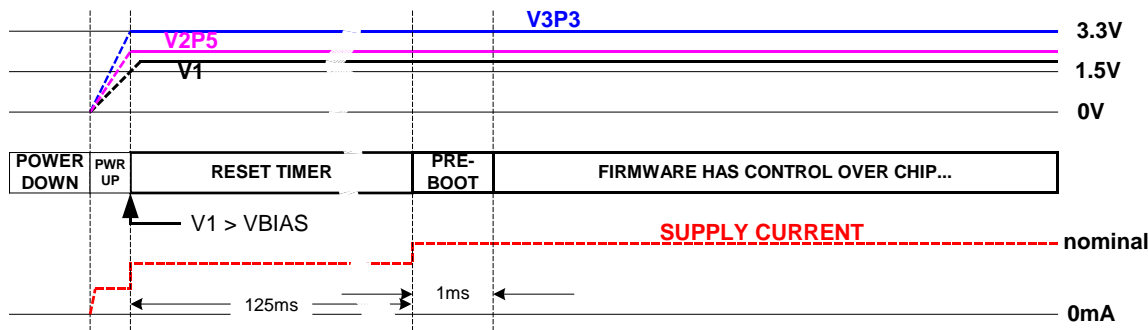

Figure 20: Timing Diagram for Voltages, Current and Operation Modes after Power-Up
**Power-Up:** After power-up, the 71M6511/6511H is in reset as long as  $V1 < VBIAS$ . As soon as  $V1$  exceeds  $VBIAS$ , the reset timer is started which takes the MPU out of reset after 4100 oscillator cycles (see Figure 20). The MPU then initiates its pre-boot phase lasting 32 cycles. The supply current will be low but not zero during power-up. It will increase, once  $V1$  exceeds  $VBIAS$  and will increase to the nominal value once the preboot phase starts. The supply current may then be reduced under firmware control, following the steps specified in Battery Operation and Power Save Modes.